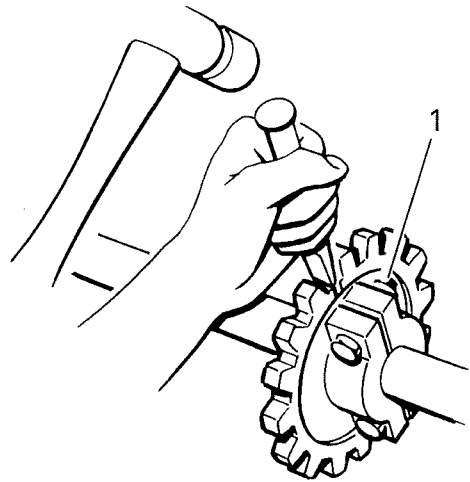

Figure 44
Most drive sprockets will have been split on initial installation, but if not, they should be split with a hammer and sharp chisel. Before splitting a sprocket on or off the machine, remove the fixing bolts (*item 1, figure 44*). Keep the split halves of the sprockets in the correct pairs to prevent mis-match when fitting.